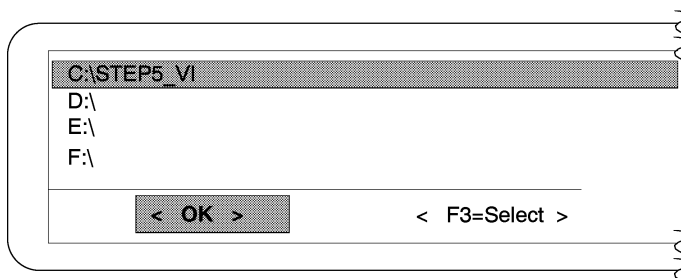
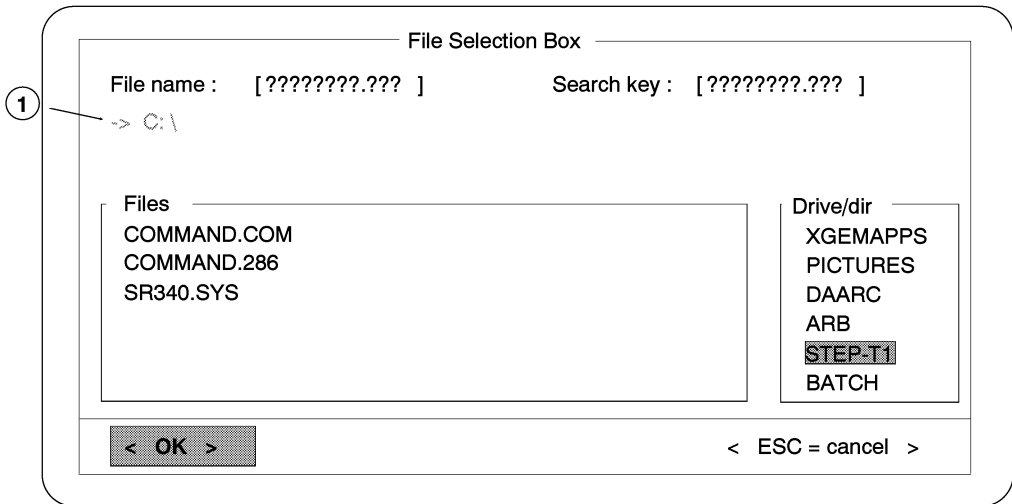

Fig. 3-10 Example of a Box with Directory Entry
Fig. 3-11: Display of Existing Directories and Files on Drive C:\
The "File selection box" is displayed (Fig. 3-11) with the selected directory C:\ entered in field 1.
The box displaying the directory appears (Fig. 3-10). The directory setting displayed previously in field (1) (Fig. 3-11) is adopted.